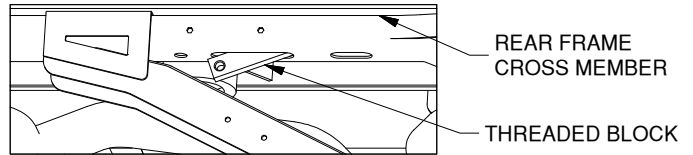
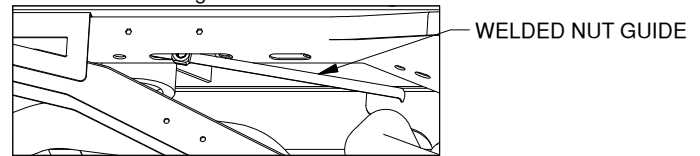

Figure E2
Figure E3
2. **Install the bolt guides.** Locate the rear frame cross member. First, install the threaded block by passing it through the slot in the frame cross member, as shown in Figure E2. The side of the threaded block which has the chamfered holes needs be down. Second, with the welded nut guide on edge and the flanges facing the cab, install the guide by passing it through the slot, as shown in Figure E3. After the nut is in the tube turn the flanges so they are facing down. Pass the nut guide into the slot until the end of the guide is visible in the hole in the cross member on the driver side of the frame. Pass the end of the guide through the hole, as shown in Figure E4.